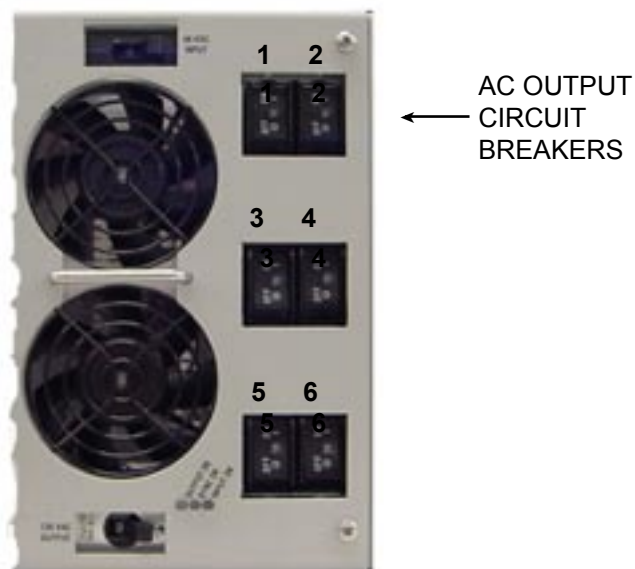

Figure 5. Front Panel AC Output Circuit Breakers
10.3 Output Power. Maximum output power for a full IX12.5 (with five inverter modules) is 115VAC at 110A RMS or 230VAC at 55A RMS, giving a maximum of 12.5 kilovolt-amperes. Exceeding this value will cause the output breakers to trip and/or the inverter modules to shut down. Figure 5 shows the six output breakers on the front panel. Full output power is produced at up to 50°C ambient temperature. Above this, output current must be derated at 2.5%/°C. Maximum operating temperature is 70°C, at which the output current must be derated by 50%.
10.5 AC Load Breakers. The outputs of the inverter modules are also protected by the six AC output load circuit breakers. See Figure 5. These breakers are designated by the user at the time of ordering and may be from 5 to 30 amperes for each breaker, depending on the operating load current. See the list of circuit breakers and codes on page 2 of the IX 12.5 data sheet in appendix A1.